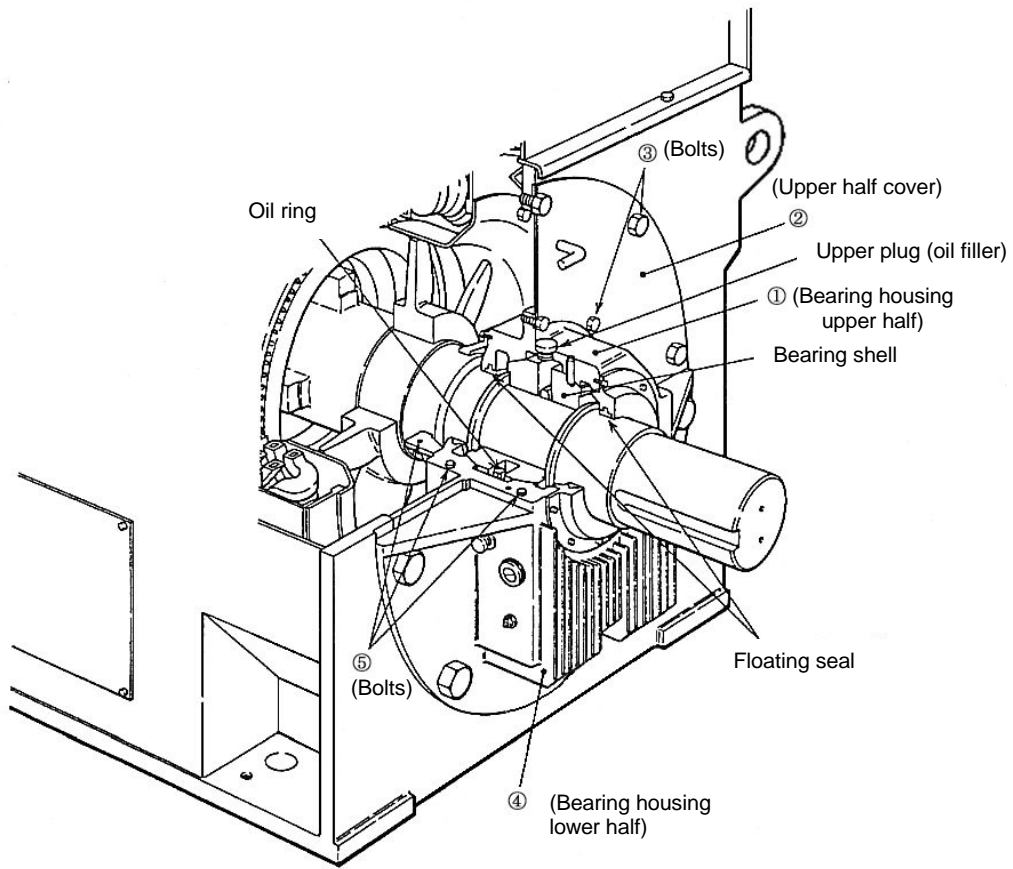

Fig. 3
- (1) Remove the dial thermometer, thermocouple or other bearing temperature measuring devices.
- (2) Drain the lubricant from the bearing housing through the drain port by removing the plug.
- (3) Disconnect the oil feed pipe, if connected.
6.2.2 Removing bearing housing upper half (see Fig. 3, Fig. 4)